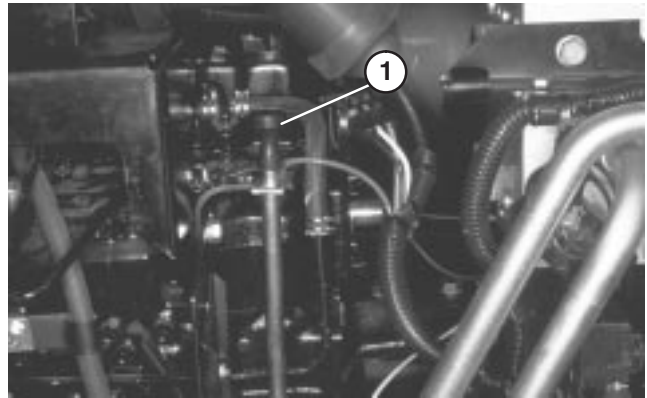
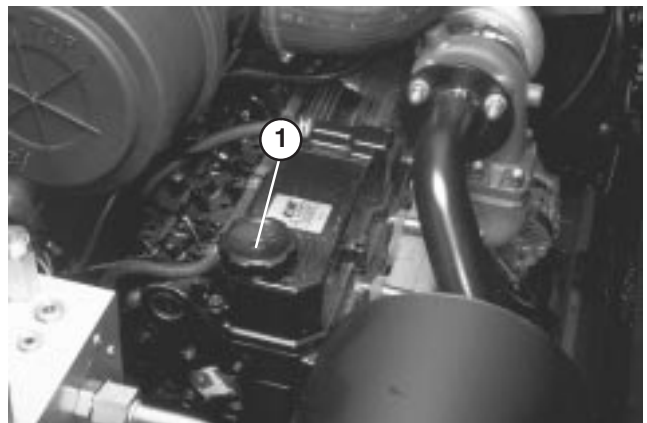

Figure 33
Figure 34
2. Remove dipstick, wipe with clean rag (Fig. 33) and fully re–insert in tube. Remove from tube and check oil level. Level should be between the marks on the dipstick. If level is low, remove filler cap (Fig. 34). Add oil until level is to top mark on dipstick. **DO NOT OVERFILL.**